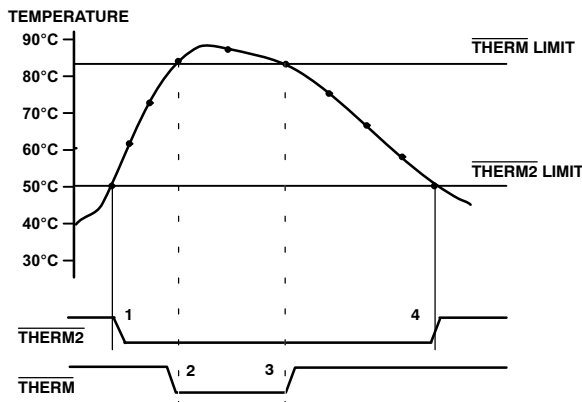

Figure 20. Operation of the $\overline{\text{THERM}}$ and $\overline{\text{THERM2}}$ Interrupts
Figure 20 shows how $\overline{\text{THERM}}$ and $\overline{\text{THERM2}}$ operate together to implement two methods of cooling the system. In this example, the $\overline{\text{THERM2}}$ limits are set lower than the $\overline{\text{THERM}}$ limits. The $\overline{\text{THERM2}}$ output is used to turn on a
- The $\overline{\text{THERM}}$ output deasserts (goes high) when the temperature falls to $\overline{\text{THERM}}$ limit minus hysteresis. In Figure 20, there is no hysteresis value shown.